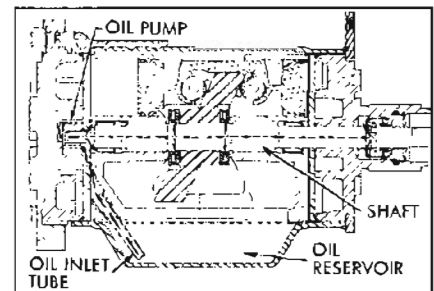

Figure 11-32—Compressor Oil Flow
3. Oil Pump—An internal tooth outer rotor and external tooth inner rotor comprise the oil pump. The pump works on the principle of a rotary type pump. Oil is drawn up from oil reservoir in underside of shell through the oil inlet tube (see Figure 11-32) and circulated through the system via a 3/16 inch diameter oil passage through the shaft center and also four 5/64 inch diameter holes drilled perpendicular